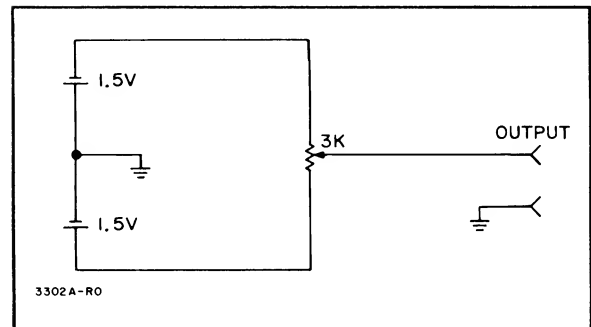

Figure 5-3. 0 - ± 1500 MV Power Supply
- a. Test equipment required: Dc voltmeter, 0 - ± 1500 mv dc power supply (see Figure 5-3 for construction) and an oscilloscope.